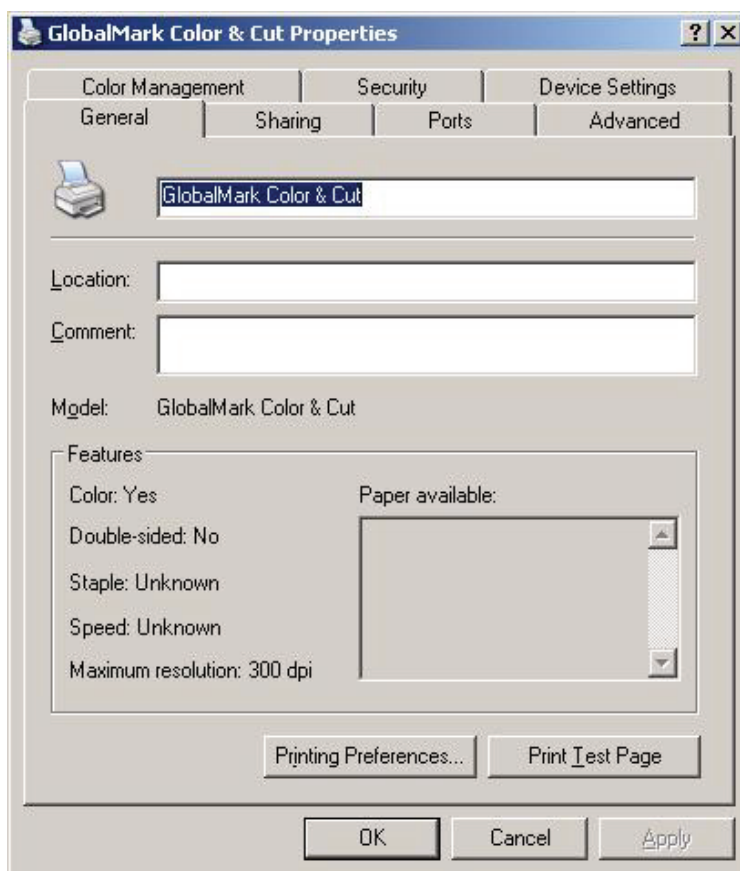

Figure 11-9. Printer Properties - General Tab
3. Click the **General** tab (Figure 11-9).